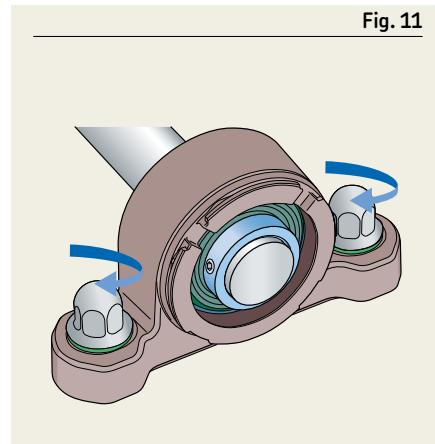

Fig. 11
- 3 For plummer block units, fit the attachment bolts but do not tighten them (**fig 11**). For flanged units, fasten them securely to the machine wall. For composite housings, be sure the metallic bushes in bolt areas will be in contact with the machine wall.